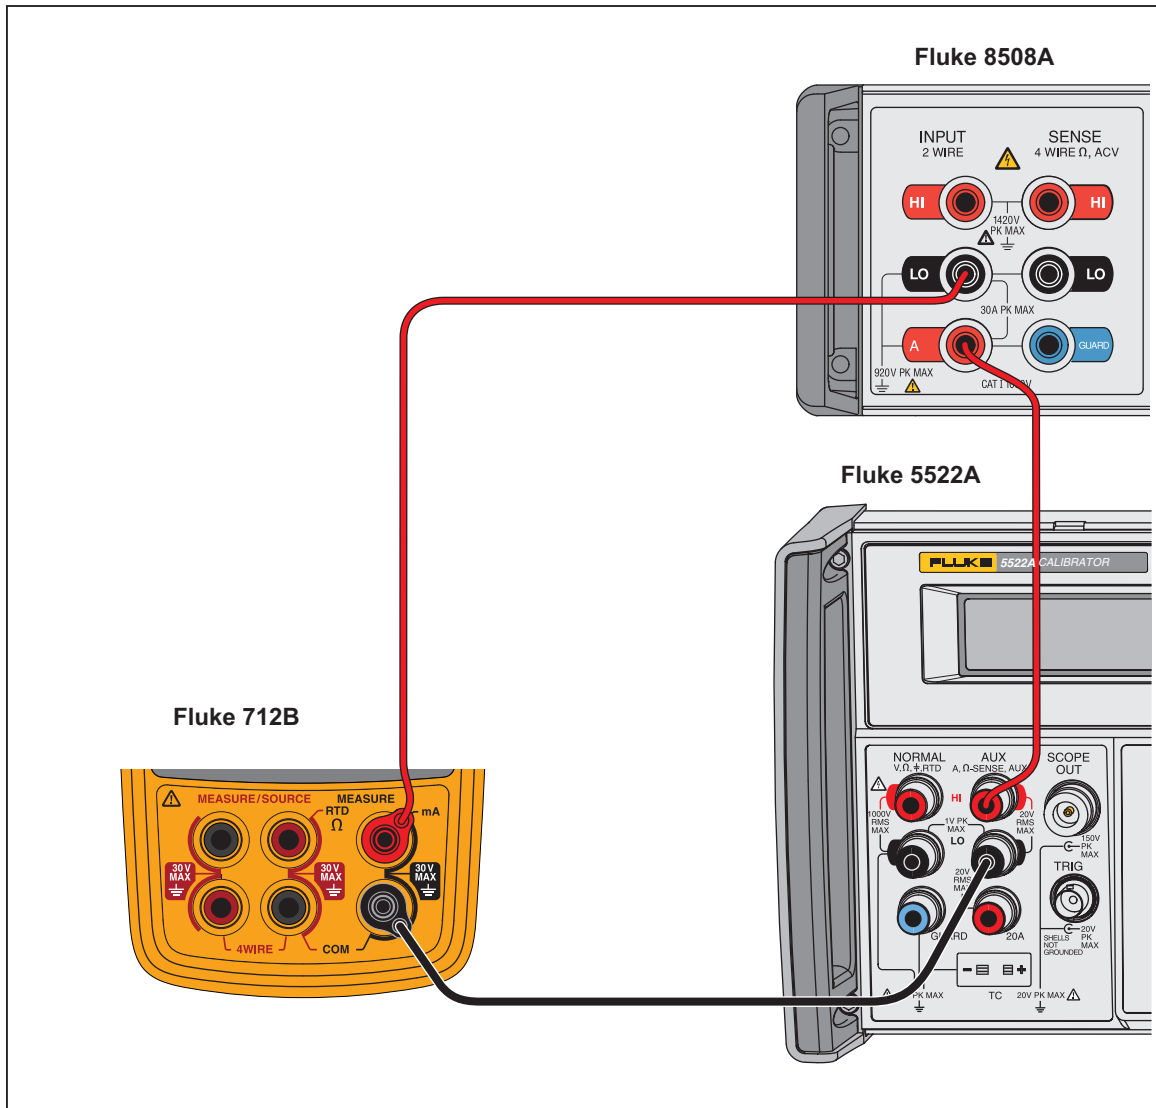

Figure 5. Verify 712B mA Measure
1. Make the connections between the 712B, 8508A, and 5522A, as shown in Figure 5.